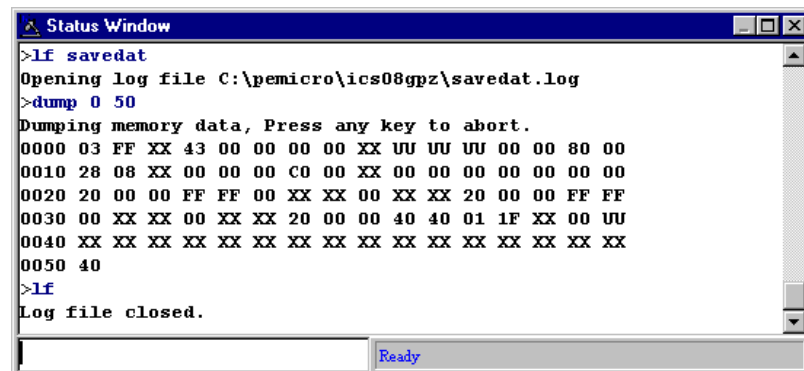

Figure 5-10. Results of Entering the LF Command in the Status Window
1. Choose the **Start Logfile** option from the ICS08Z File menu, or enter the LF command in the Status Window command line (see **Figure 5-10**).